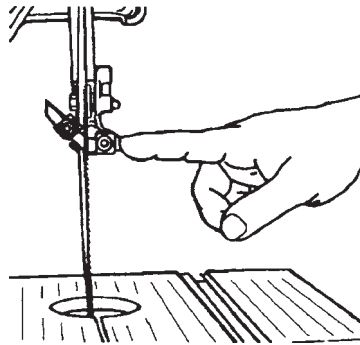

Fig. B-23
5. Push the right guide blocks in until they contact the blade, twist the blade slightly, and push the back of the blade guide housing, as shown in Fig. B-23. Adjust the position of these guide blocks to allow 1/16" clearance between the back of the blade and the blade guide housing, then secure them in place.